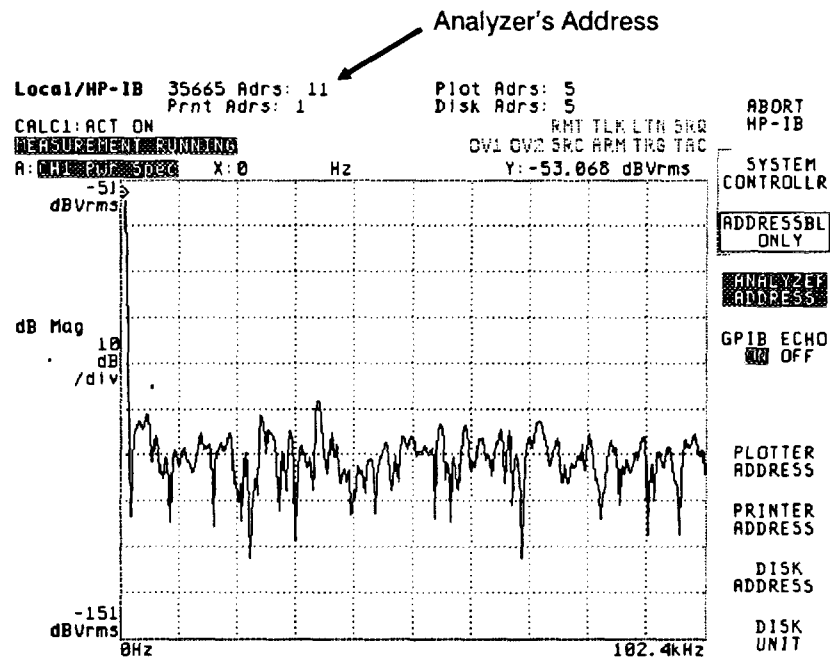

Figure 1-4. HP 35665A Screen After Pressing Local/HP-IB
4. Verify that the analyzer's address is set to 11. The current address setting is displayed when you press the [ ANALYZER ADDRESS ] softkey (see figure 1-4). You can change the address by pressing [ ANALYZER ADDRESS ], then using the numeric keypad and the [ ENTER ] softkey to enter a new value. However, the instructions in the verification procedure assume that the analyzer address is set to 11.